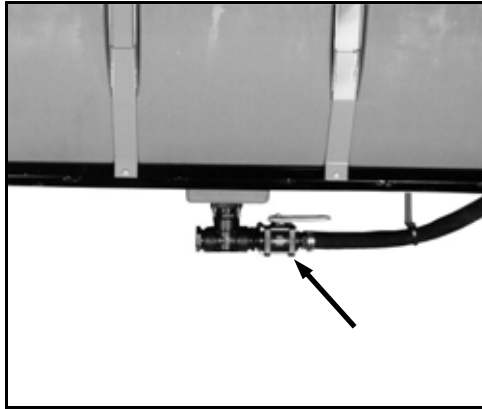
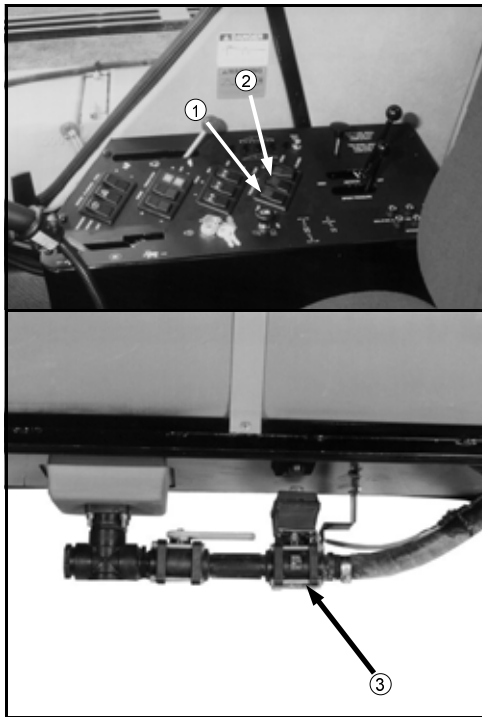

FIG 5.77
FIG 5.78
To shutoff either or both solution tank sumps, manually close either or both 1½” ball valve(s) located under each solution tank (fig. 5.77). Your sprayer may be equipped with optional 1½” electric tank shutoff valves (fig. 5.78, item 3).
To operate the electric tank shutoff valves, locate the solution tank switches in the console. To open or close the left solution tank, depress the “OPEN” or “CLOSED” side of the left switch (fig. 5.78, item 1). To open or close the right solution tank, depress the “OPEN” or “CLOSED” side of the right switch (fig. 5.78, item 2).